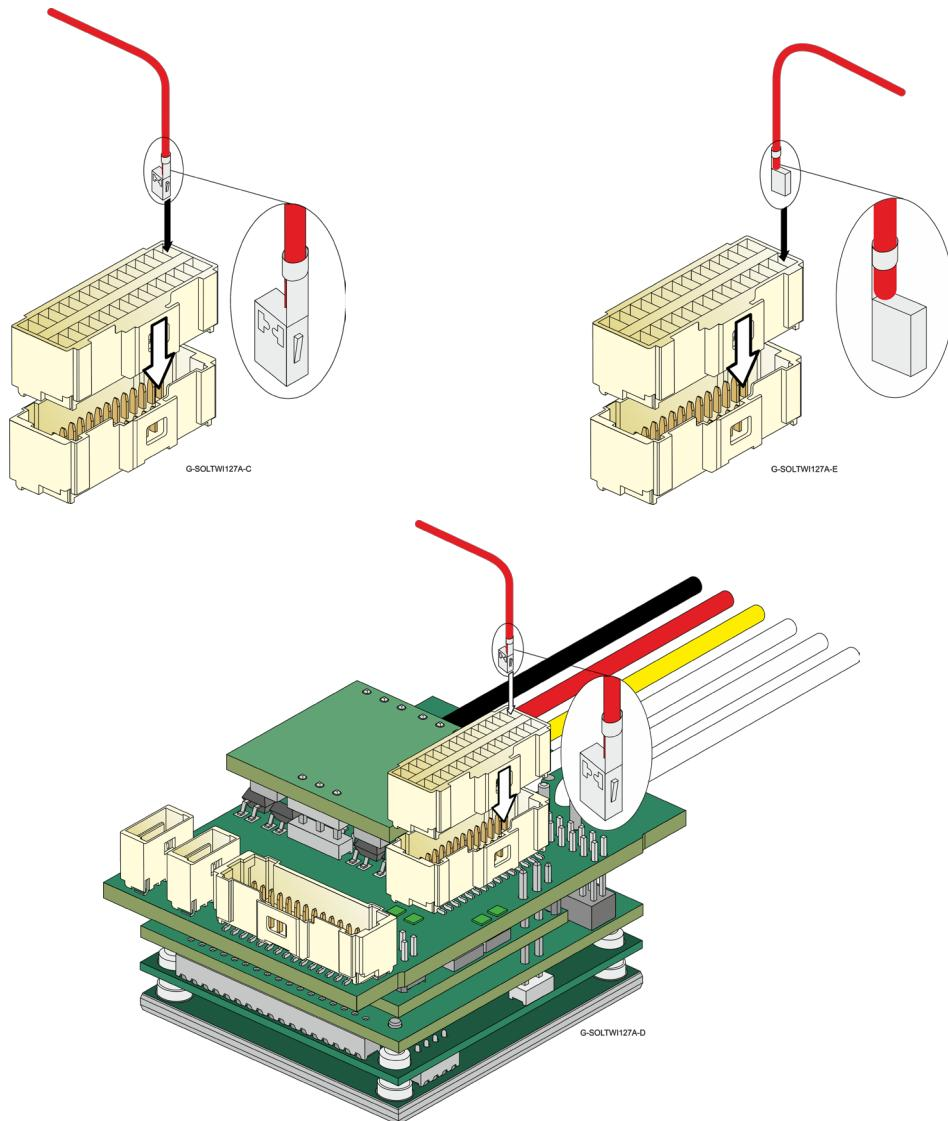

Figure 7: Inserting a wire/pin to the Female Connector
3. Place the connector on a flat surface, in the orientation as shown in Figure 7.
4. Insert the wire connector to the slot as shown in Figure 7. Make sure that the connector protrusion is inserted to the bottom of the rectangular slot.